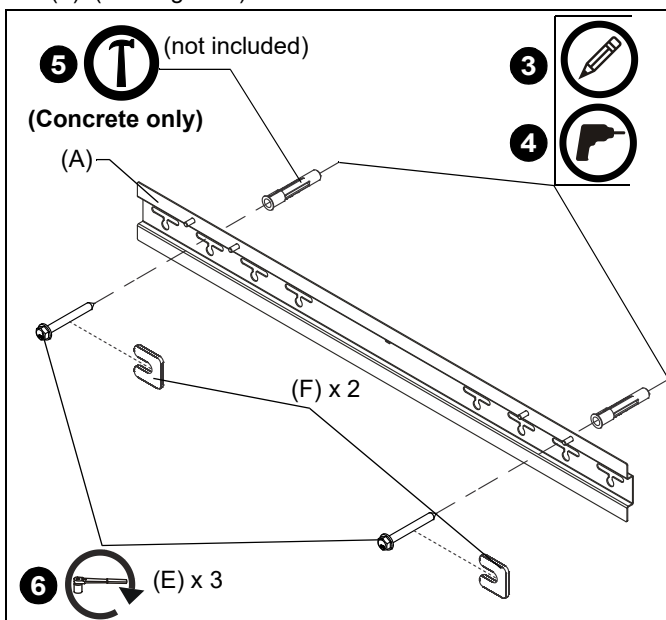

Figure 2
- Wood stud only:** Make sure that mounting slots in wall plate (X) are placed over studs.
- Wood stud:** Drill two 7/32" x 2-3/4" pilot holes at marked locations. **Concrete:** Drill two 3/8" x 3-1/2" pilot holes at marked locations. (See Figure 2)
- Secure upper wall plate (A) to wall using two 5/16 x 3-1/2" hex head lag screws (E) and two 5/16" installation spacers (F). (See Figure 2)